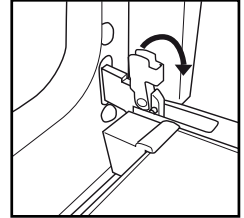

Fig. 1
2. Lift the catches and push them forwards as far as they will go (fig. 1).
1. Insert the wire shelf horizontally, with the raised part "A" facing upwards (fig. 1).